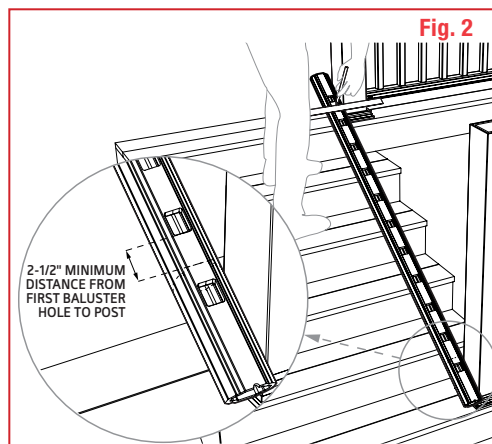

Fig. 2
- 2 Measure the length between posts, and confirm which Marquee Railing® Kit is required (Fig. 2)
If the Baluster interferes with the installation of the bracket, the top rail bracket may also be installed on top of the rail instead of underneath the rail. (**Fig. 2**)
**3** To install the bottom rail brackets, place the bottom of the bracket on the top edge of the Marquee Post Ring, and rest the rail onto the bracket. Center the rail on the post as shown in **Fig. 2**, and secure the bracket to the post using the two 2" screws provided in the Marquee Straight Bracket Kit. Repeat on post at the opposite end of the rail section.
- 2 Lay the bottom rail beside the posts **with the notched end of the rail on the lower end of the stair section** and the prerouted Baluster holes facing upward. (Fig. 2) The rail should extend past the post sleeves on each side. Mark both ends of the rail where they cross the post sleeve.
- 2 Determine the post mount location. Using the 5-1/2" x 5-1/2" concrete surface plate as a guide, ensure that the distance from the edge of the concrete to the edge of the surface plate is at least 4-1/4". (Fig. 2)
- 3 Mark the location of the four concrete surface plate corner holes for drilling. (Fig. 2)